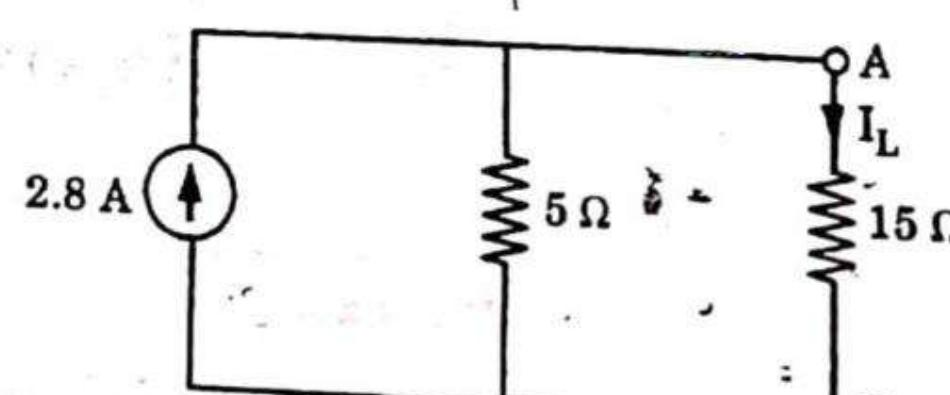

Fig. 1.23.5.
3. Thus, Norton's equivalent circuit with the load resistor of 15Ω is as shown in Fig. 1.23.5.